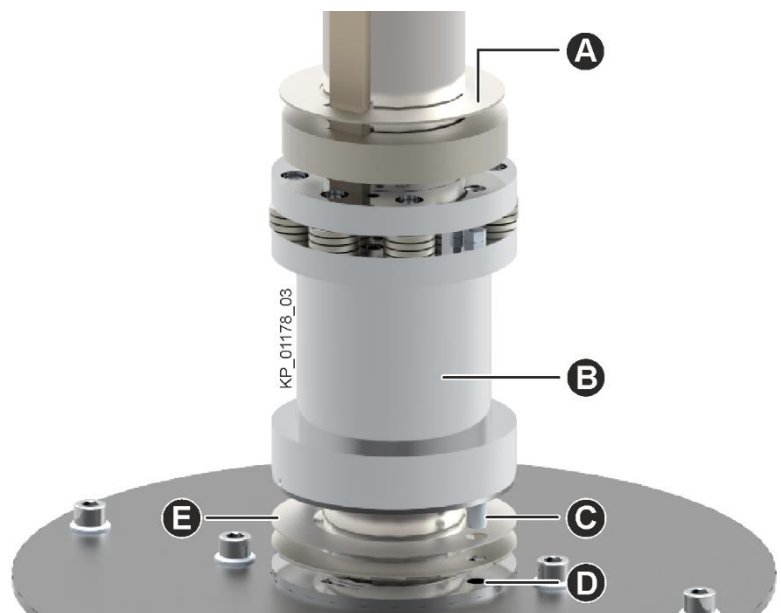

Fig. 14: Spring assembly with spacer rings
- Put all spacer sheets (Fig. 14/C) with bores for the dowel pins (Fig. 14/F) on the discharge device (Fig. 14/E).
- Place the spring assembly (Fig. 14/B) on the spacer sheets.
- Place spacer rings (Fig. 14/A) on the spring assembly (depending on the die thickness).